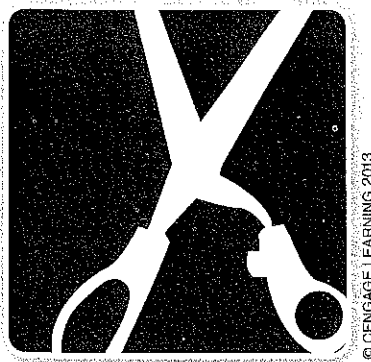

Figure 5-18: Seeing and drawing negative shapes around the scissors.
Step 3. Look at the shadow image projected. You see the shape of the scissors, but surrounding it are a number of shapes of light, the negative shapes, or shapes of negative space. Now trace around the negative shapes, and then turn off your projector. Look at the shapes on your paper. Lightly number all the negative shapes and cut them out, and then discard the shape of the scissors. Now, on a sheet of contrasting colored paper, arrange the negative shapes and use a glue stick to glue them down. If you can re-create the way they were arranged on the original drawing, you will have produced the image of the scissors (the positive shape) in the background color (see Figure 5-18).